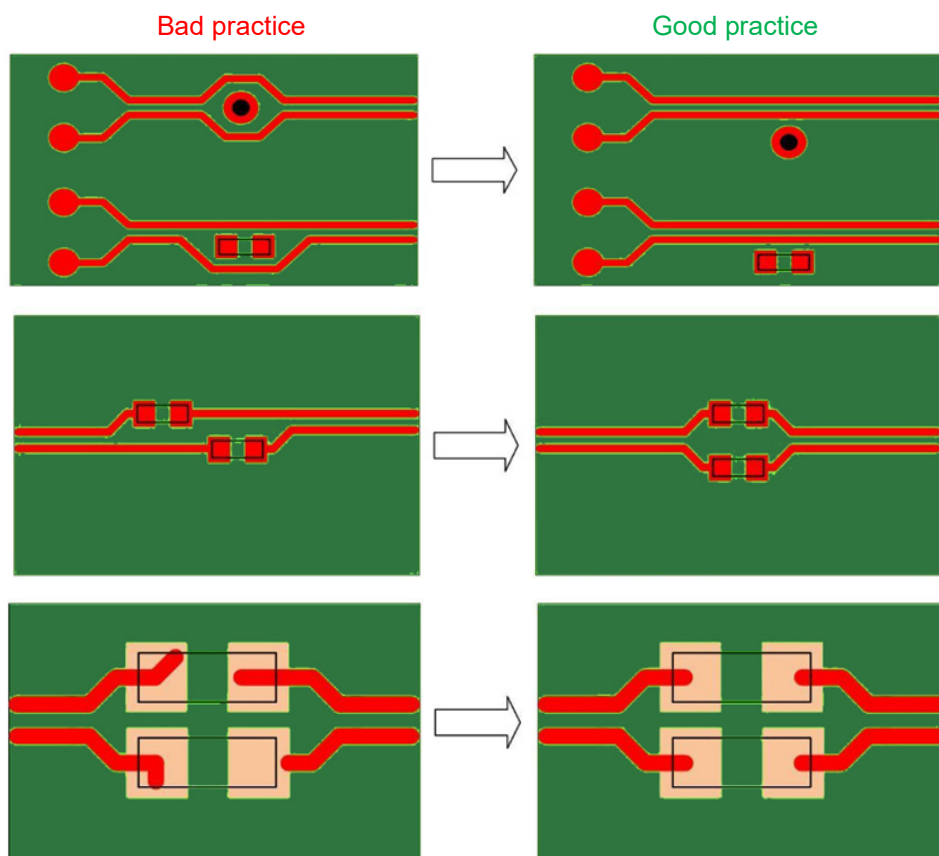

Figure 15. Differential Traces Layout Practices (1)
Differential Traces Layout Practices (1) (see Figure 15)